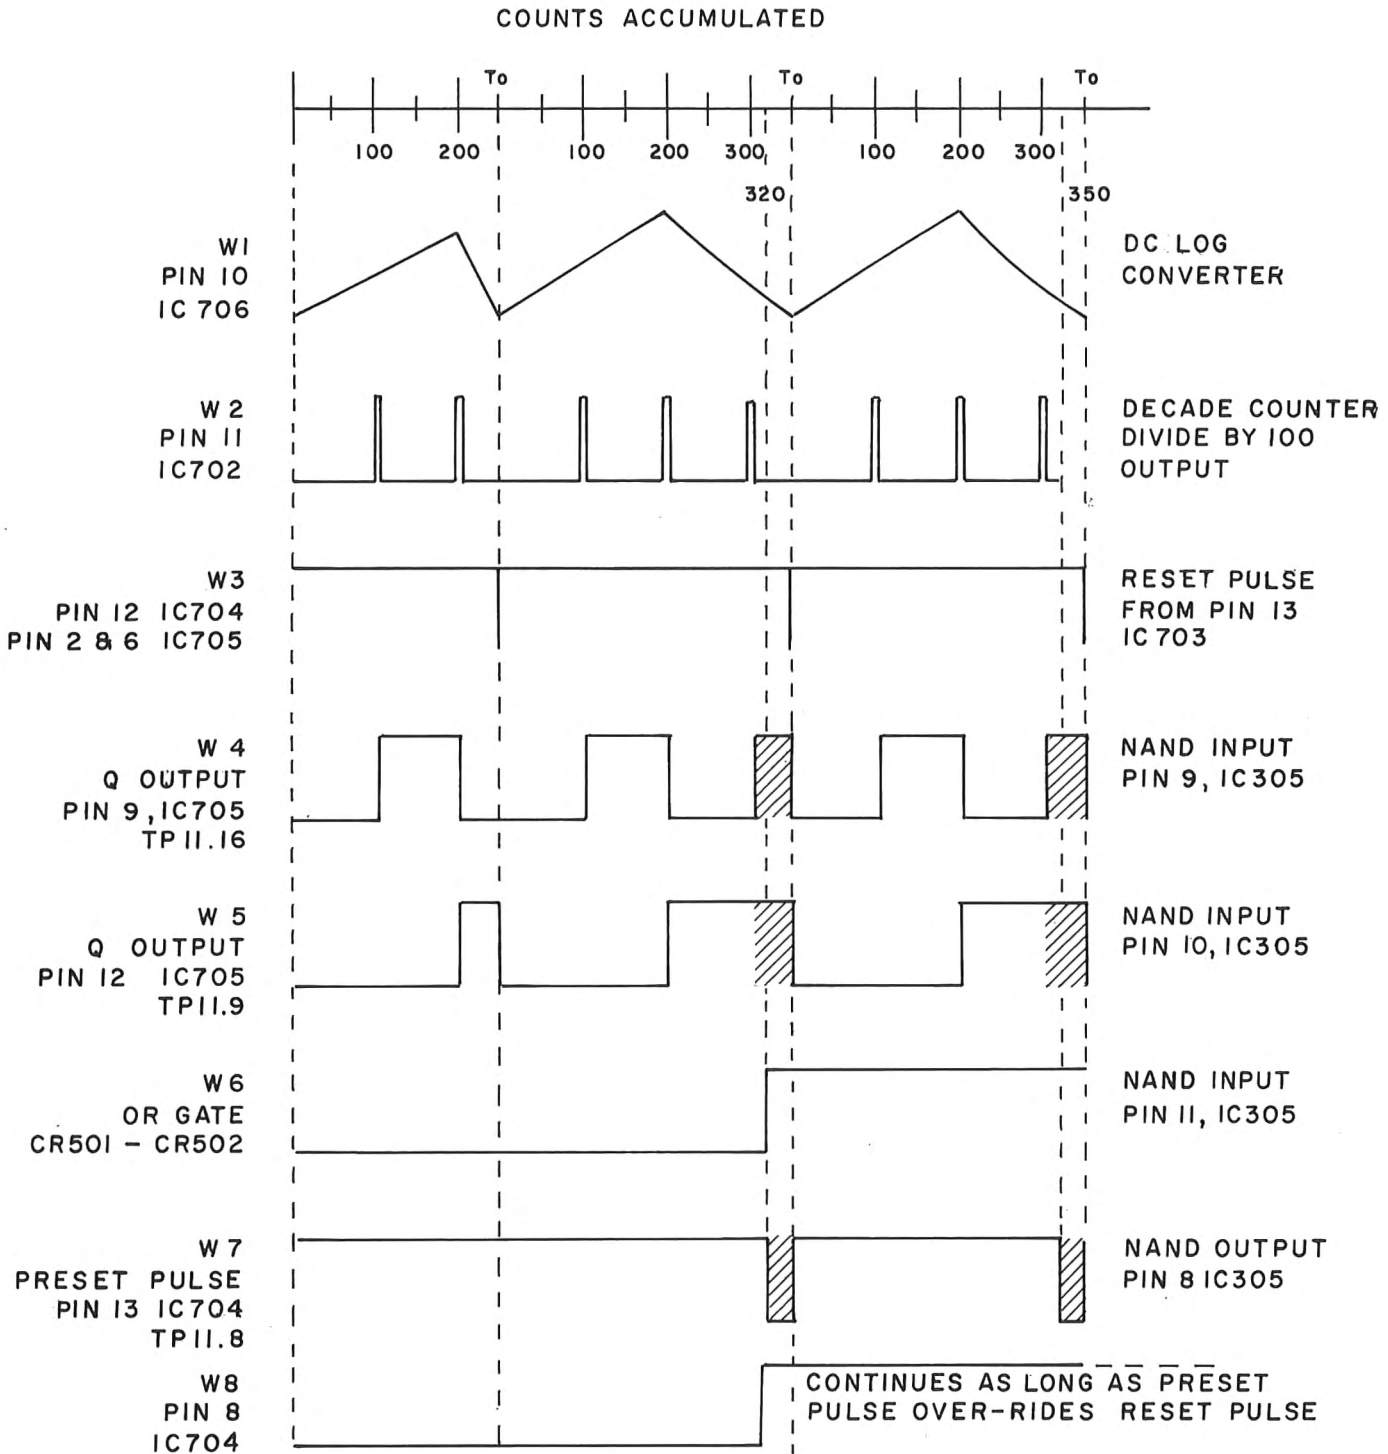

Figure 4-3 DC to LOG Converter Logic
- 4.16 (See Fig. 4-3) The reset pulse W3 assures that the Q outputs of the dual flip-flop IC705 are at logical zeros at the start of each charge cycle of capacitor C706. The spillover pulses W2, from pin 11 of IC702 occur at each 100 counts. The first spillover count which occurs during the charge cycle causes the Q output pin 9 of IC705 to go to a logical 1. The second spillover count which occurs at an accumulated count of 200 causes the Q output pin 9 of IC705 to go from a high to a low. (See W4). This high to low transition causes the Q output pin 12 of IC705 to go to a logical 1. (See W5).